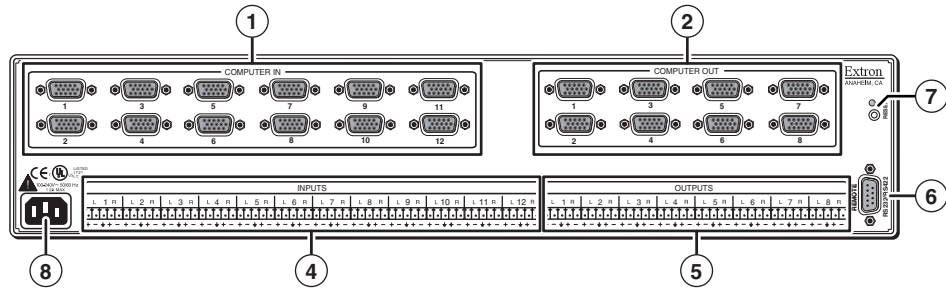

Figure 2-1 — MVX 128 A video and audio matrix switcher
The following Underwriters Laboratories (UL) requirements pertain to the installation of the MVX into a rack (figure 2-1).
Figure 2-1 shows the rear panel of the MVX 128 A.